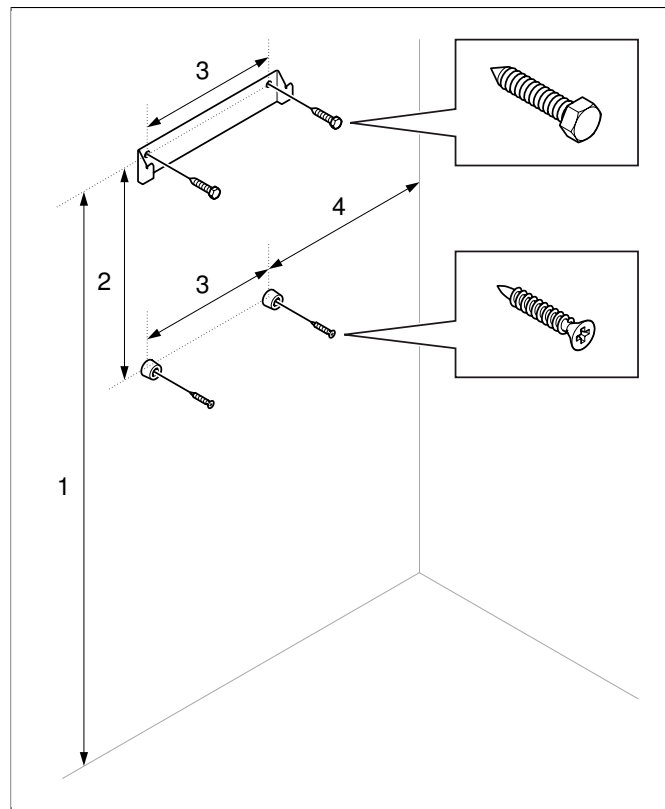

**Figure 10:** Bracket with screws and spacers
8. Attach the bracket and spacers to the wall following the specified dimensioning (see **Figure 10**, Page 5).